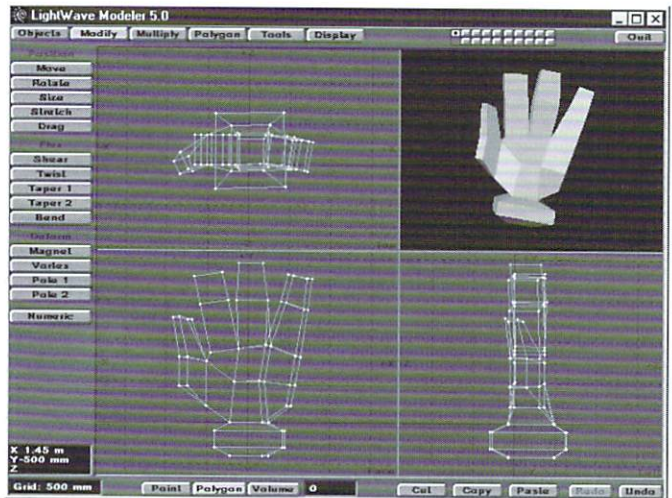

Figure 4: Hand object with all the fingers beveled out.
- Bevel the bottom-most polygon again with 0.0 inset and a 0.25 m shift, and then again with a 0.25 m inset and a 0.1 m shift to taper it back in (Figure 4).